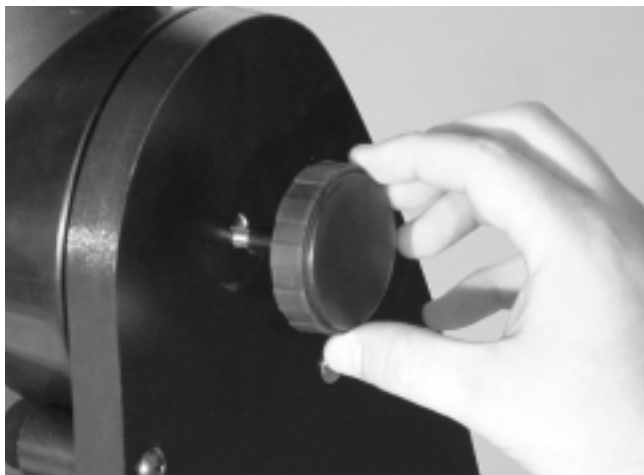

Figure 11. The retaining knob with the nylon spacer is installed on the side of the base that does not have the IntelliScope port.
2. Place the black nylon retaining knob spacer on the shaft of the remaining retaining/tensioning knob. This knob will now be known as the retaining knob. Push the shaft of the retaining knob through the hole in the side panel opposite the one the retaining knob is in (Figure 11). Thread the knob into the altitude bearing as far as it will go. The purpose of this knob is to allow the tube and base to be carried as a single unit as well as engaging the altitude encoder when using the IntelliScope controller. There will be a gap of 1/2" between the side panel and the side bearing; this was designed deliberately for use of the IntelliScope controller system.